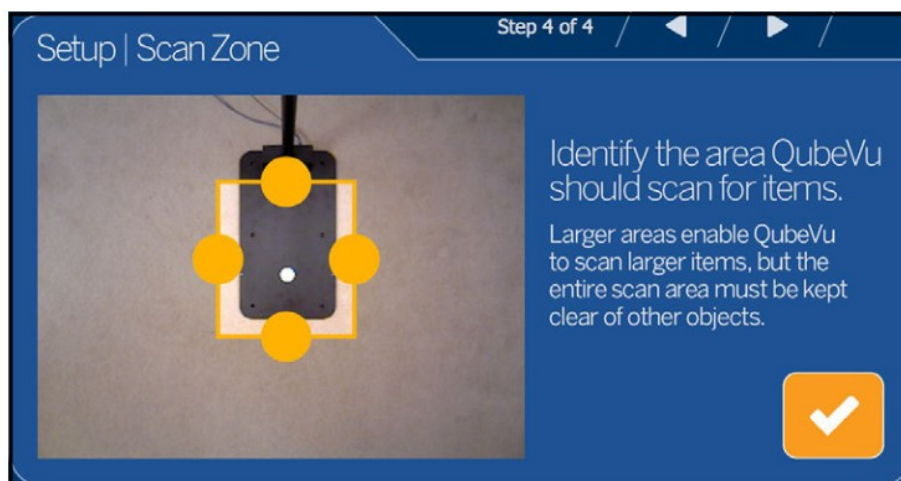

Figure 2-11. Scan Zone
1. Adjust the scan area by adjusting each of the four dots (touch points) on the screen Figure 2-11.